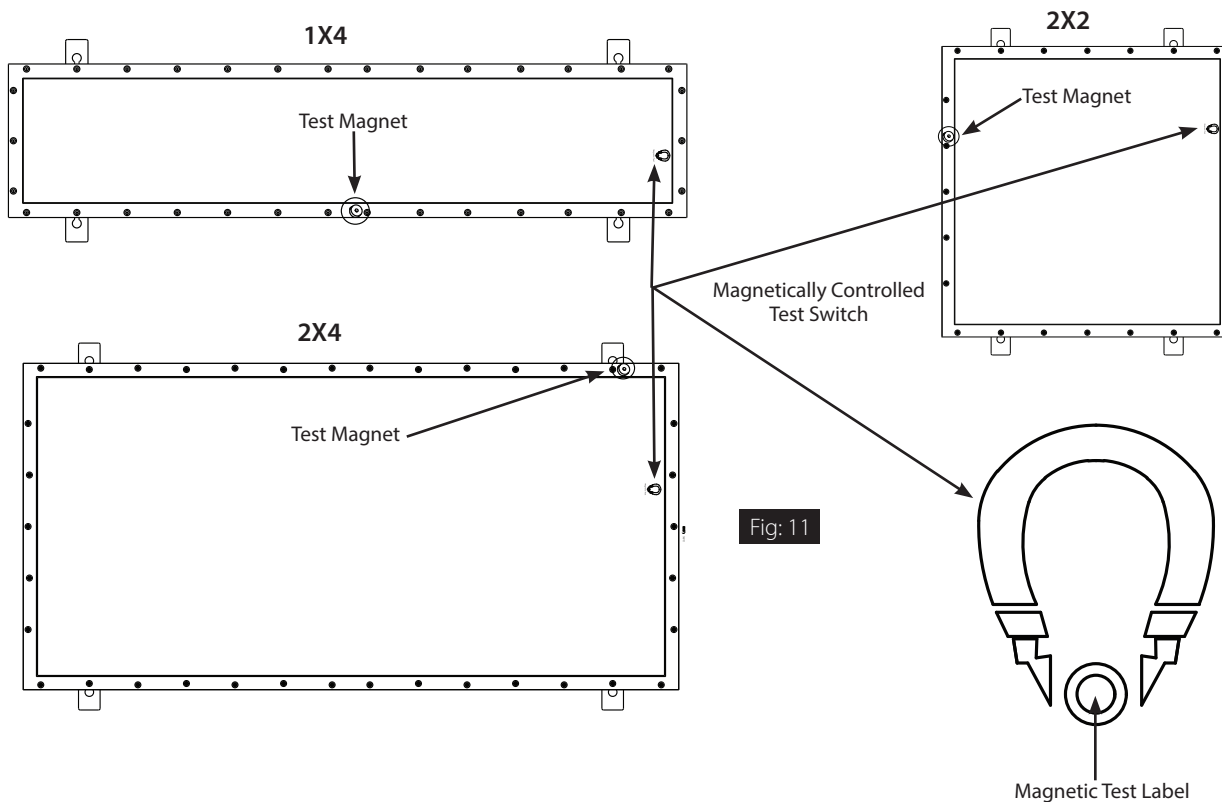

Fig: 11
2. A **Magnetic Test Label** (Fig. 11) placed on the surface of the fixture housing identifies the position of the **Magnetic Controlled Test Switch**.